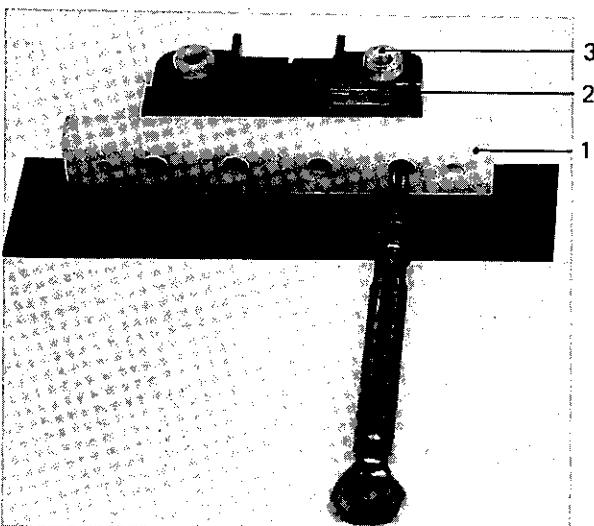
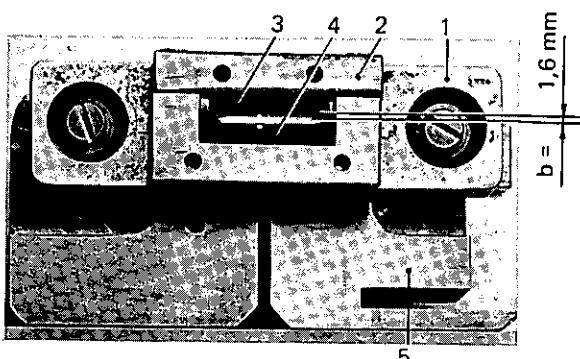

Fig. 5
Fig. 6 Cathode block
- a. Mount the two cathode holders (Fig. 5, item 2) on the flat insulator (Fig. 5, item 1) and screw in position with the two M3 cylindrical head screws.
- b. Fit the Wehnelt section (Fig. 6, item 1) with the two insulators (Fig. 5, item 3) to the cathode holder and tighten.
- e. Adjust the lower Wehnelt plate (Ta) (Fig. 6, item 1) approx. 0.3 mm from the cathode.
- f. Screw the upper Wehnelt (Fig. 6, item 2) slackly in position with the two M2 vertical head screws (coat with Molykote).
- h. Check the cathode, it should be located symmetrically in the gap  $b = 1.6$  mm (Fig. 6).